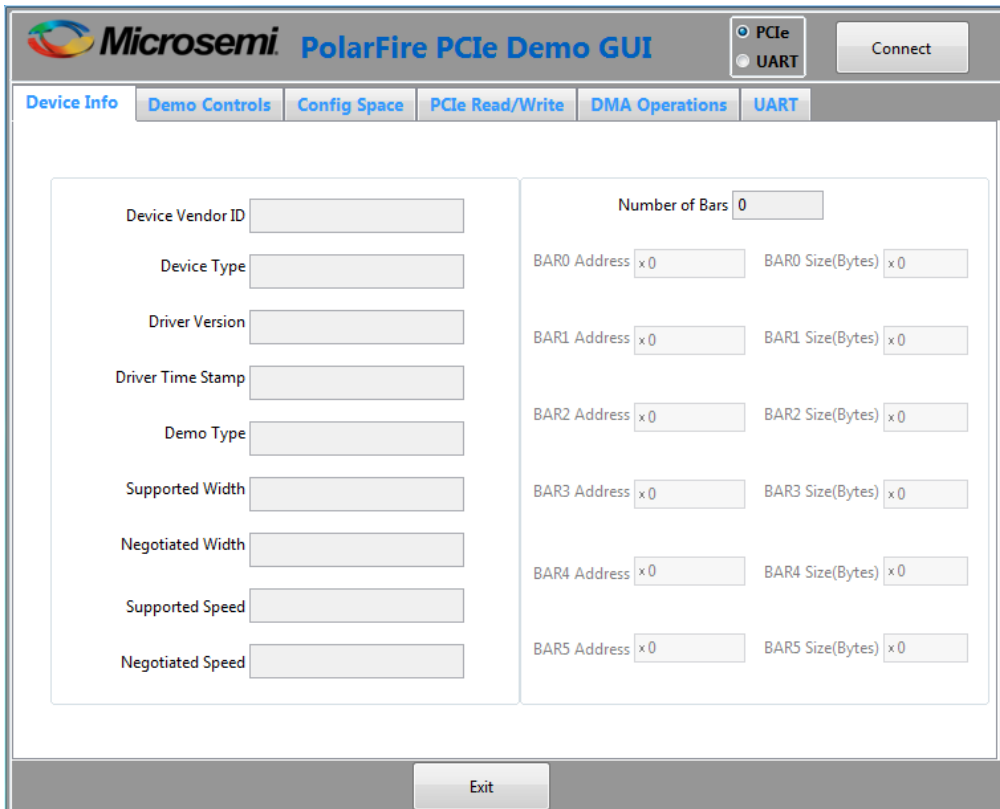

Figure 31: PCIe end point demo application
2. Go to **All Programs > PolarFire_PcGui > PolarFire_PcGui**. The **PolarFire PCIe Demo** window is displayed as shown in Figure 31.